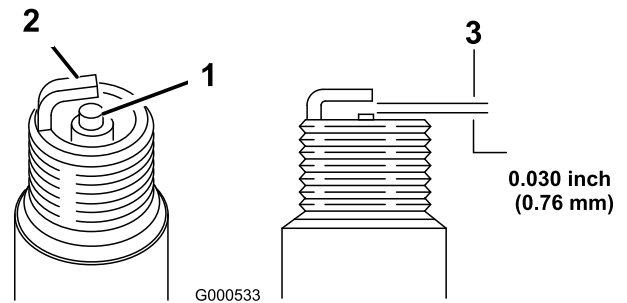

Figure 42
1. Look at the center of the spark plugs (Figure 42).
2. Check the gap between the center and side electrodes (Figure 42) and bend the side electrode if the gap is not correct.
3. Push the wires onto the spark plugs (Figure 42).